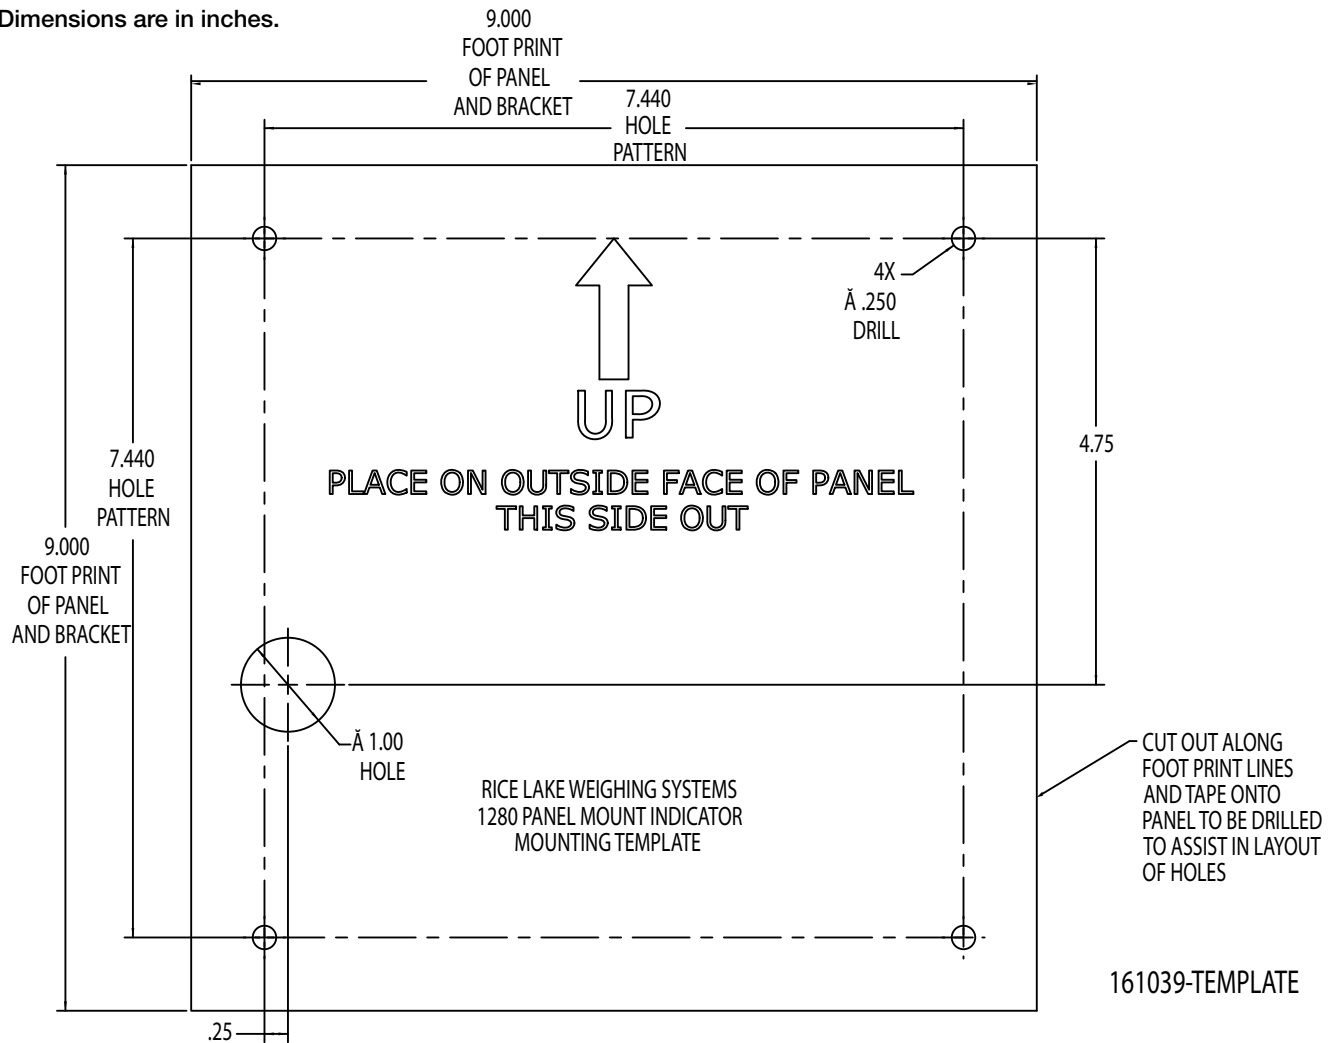

Figure 2-17. Panel Mount Dimensions
1. Tape the panel mount template to the outside of the panel. See Figure 2-15 and Figure 2-17.
This illustration is not to scale. It is for illustration purposes only. Use the dimensions in Figure 2-17 to mark the holes for the panel mount, or use the template provided with the indicator. Do NOT use Figure 2-17 as a template.